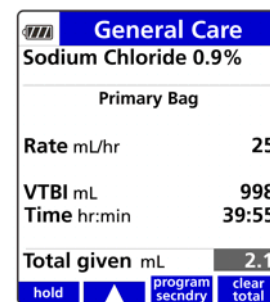

Figure 44. Programmed Primary Setup Screen Showing program secndry Soft Key.
7. On the Setup screen, press the **program secndry** soft key. See Figure 44.